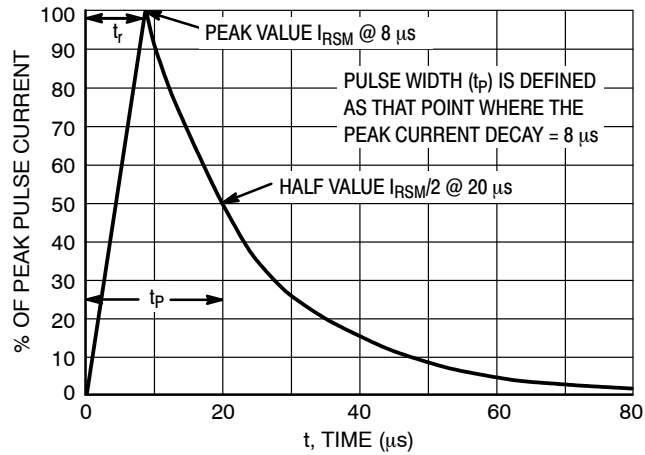
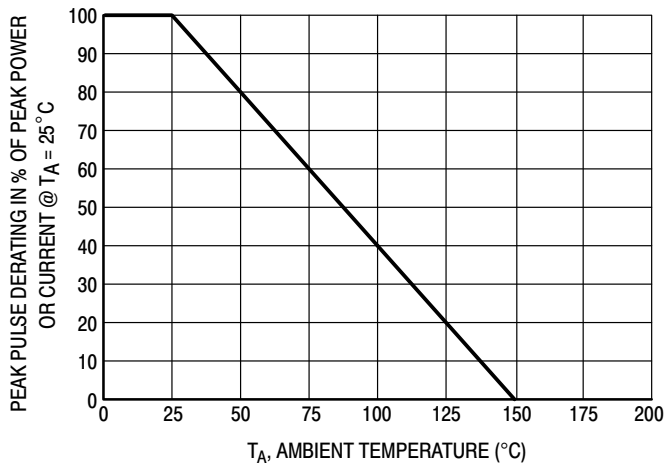

Figure 5. 8 X 20 μs Pulse Waveform
Figure 10. Pulse Derating Curve
1. Non-repetitive current per Figure 5. Derate per Figure 10.